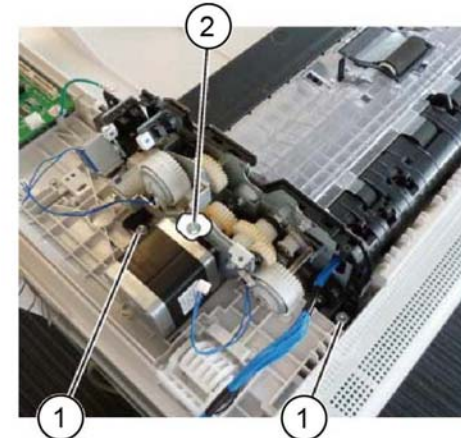

Figure 1 Screw removal
6. Remove two screws (1) that secure the DADF feeder assembly at the rear, Figure 1.